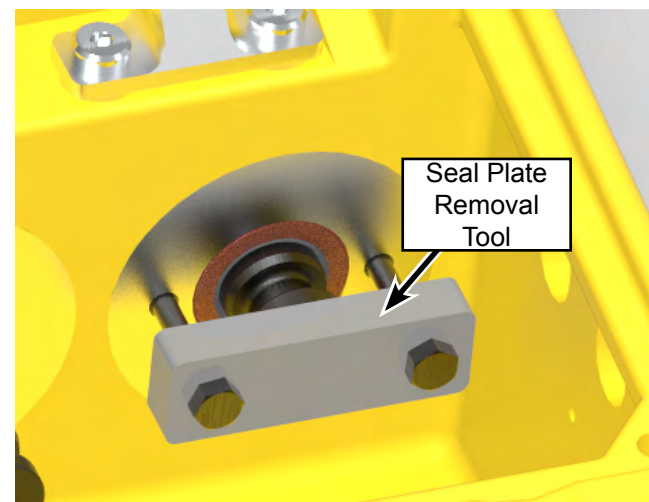

Figure 110: Install Seal Removal Tool.
9. Using seal plate removal tool, install two 1/2"-13 UNC capscrews (Figure 110) into the seal plate (4200/5200/5200Q) or 3/8-16 UNC capscrews (3000) or 1/4"-20 capscrews for 2000 pump.